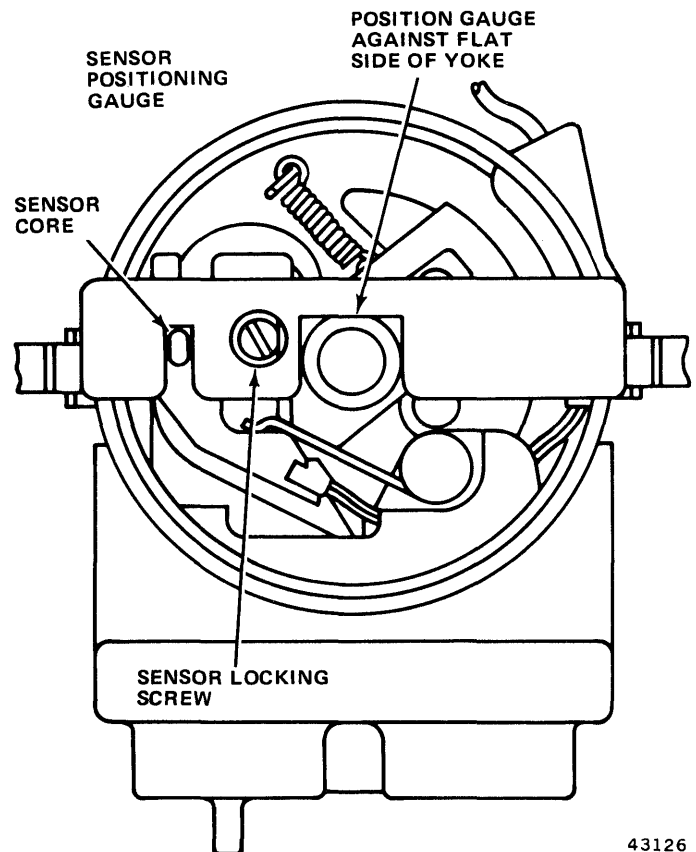

Fig. 3-58 Positioning Sensor
(10) Place sensor positioning gauge over yoke (be sure gauge is against flat of shaft) and move sensor sideways until gauge can be positioned (fig. 3-58). With gauge in place, use small blade screwdriver to tighten retaining screw. Check sensor position by removing and installing gauge. When properly positioned, it should be possible to remove and replace gauge without any sensor side movement. Tighten the retaining screw to 5 to 10 in.-oz., then check the sensor position as before.